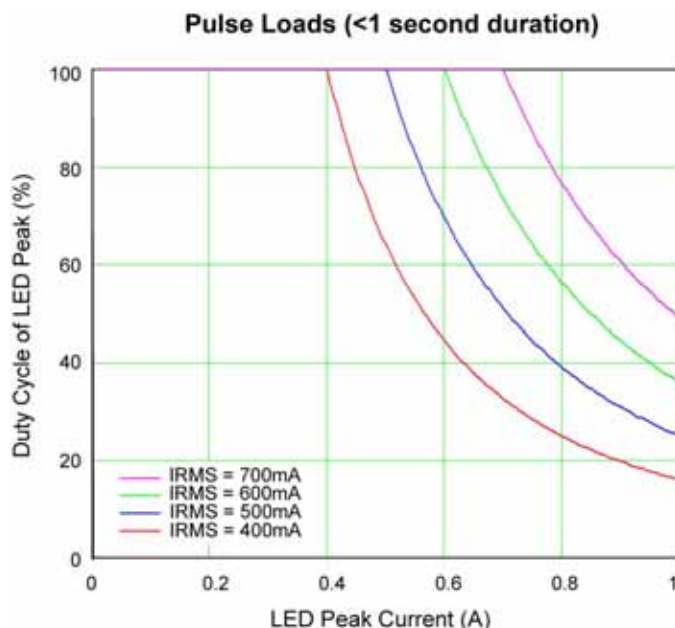

Figure 9. Duty Cycle vs. Peak Current for Fixed RMS Current
The graph in Figure 9 shows the peak LED current which can be pulsed at a given duty cycle (DC) to stay within SOA limits of 400mA to 700mA.
- Now looking at the curve in Figure 9, using the next lower value of 500mA RMS current, one can see that the 850mA peak can be driven at a duty cycle of ~33% (or 1 second out of every 3 seconds). That is well within our target of 300ms.